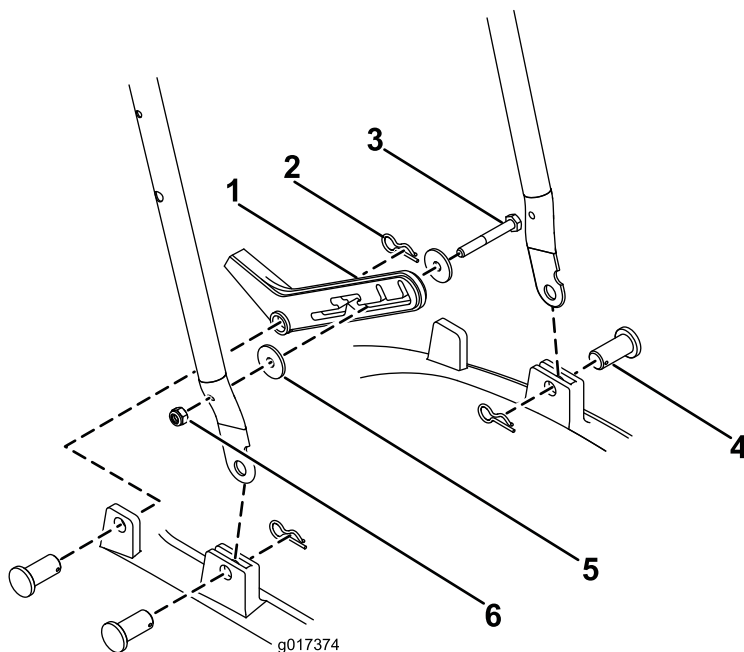

Figure 3
1. Slide the lower handle into the frame (Figure 3).
2. Secure each side with a retaining pin and a hairpin (Figure 3).
3. Secure the footstop to the right side of the lower handle using an M6 nut, and M6 bolt, and 2 washers (Figure 3).
4. Attach the footstop to the frame with a retaining pin and a hairpin (Figure 3).